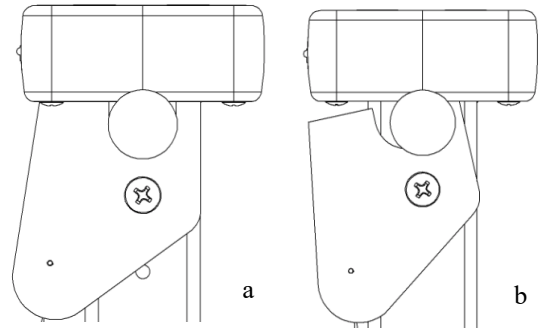

Fig. 6: a.) Bracket flush with flange, b.) Separated from flange.
2. When taking measurements, be sure the flat end of the bracket is flush with the flange. This ensures the IRT sensor is pointed in the proper direction (Fig. 6).